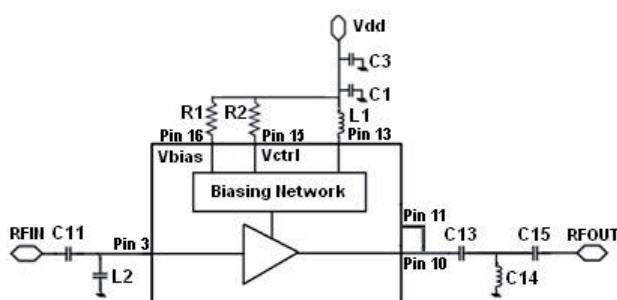

Figure 46. Circuit Diagram
1. Vbias and Vctrl can be externally controlled by change external biasing resistors  $R_1 = R_{bias}$  and  $R_2 = R_{ctrl}$  (as shown in Fig. 46).
1. Vbias and Vctrl can be externally controlled by change external biasing resistors R1 = Rbias and R2 = Rctrl (as shown in Fig. 46).
1.  $V_{bias}$  and  $V_{ctrl}$  can be externally controlled by change external biasing resistors  $R_1 = R_{bias}$  and  $R_2 = R_{ctrl}$  (as shown in Fig. 46).